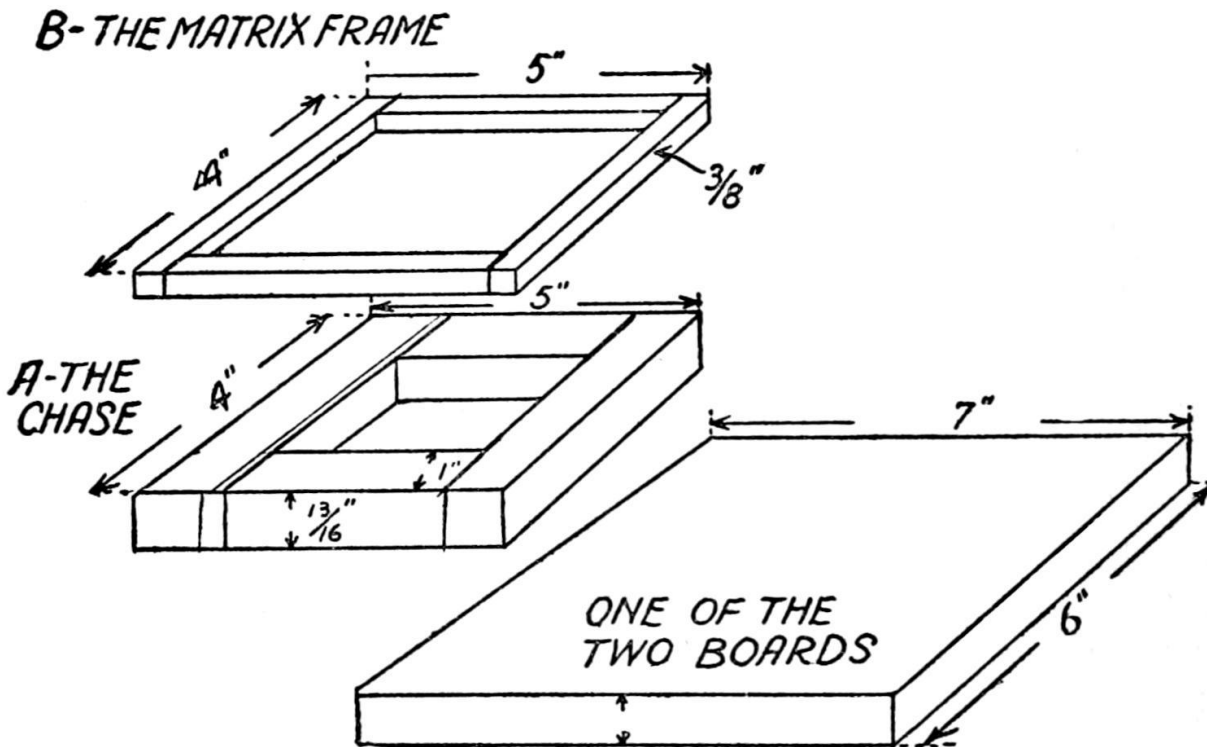

FIG. 74. THE MATRIX FRAME, CHASE AND BOARDS FOR MAKING RUBBER STAMPS
How to Make Rubber Stamps.—*The Materials Needed.*—To make rubber stamps you will need (1) one or more fonts of type; (2) a composing stick if you intend setting up more than one line; (3) a frame called a chase, 4 × 5 inches on the sides made of a strip of wood 1 inch wide and $1\frac{3}{16}$ inch high, which is the height of type from its feet to its shoulder; (4) another frame, called the *matrix frame*, made of a strip of wood 1 inch wide, $\frac{3}{8}$ inch thick and 4 × 5 inches on the sides. These two frames are shown at A and B in Fig. 74. (5) Two smooth boards 1 inch thick, 6 inches wide and 7 inches long; (6) a tooth-brush; (7) a couple of pounds of *dental plaster of Paris*, and (8) a $\frac{1}{4}$ pound of *pure unvulcanized rubber*.